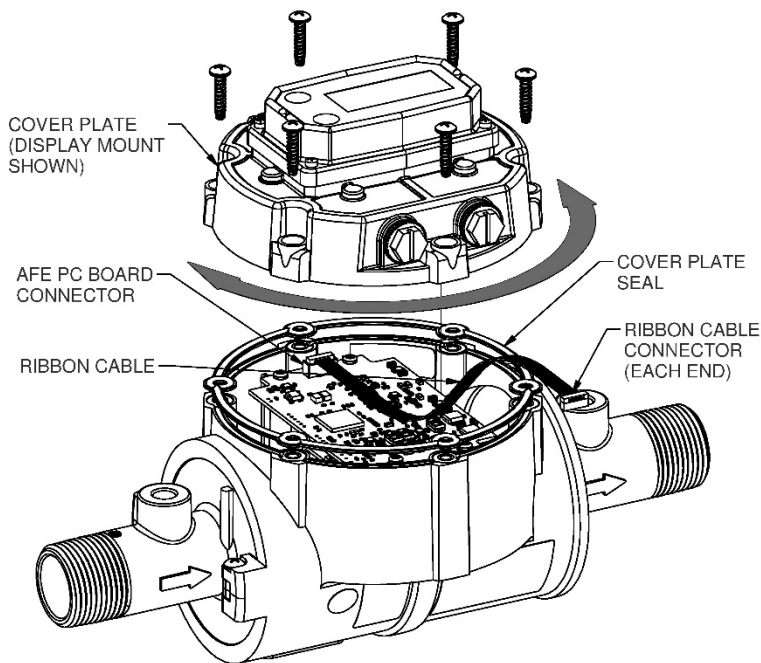

Figure 1
- Connect the QB module PC board connector to the AFE module PC board connector inside the meter housing with the ribbon cable. The ribbon cable connectors are polarized and cannot be incorrectly connected (see Figures 1 & 2).
- Install the (6) cover plate screws and tighten. Make sure the cover plate seal is fully seated before tightening the screws.
A ribbon cable connects the QB electronics within the cover plate to the AFE electronics within the meter body and allows 180 degrees of movement in either direction (see Figure 1).